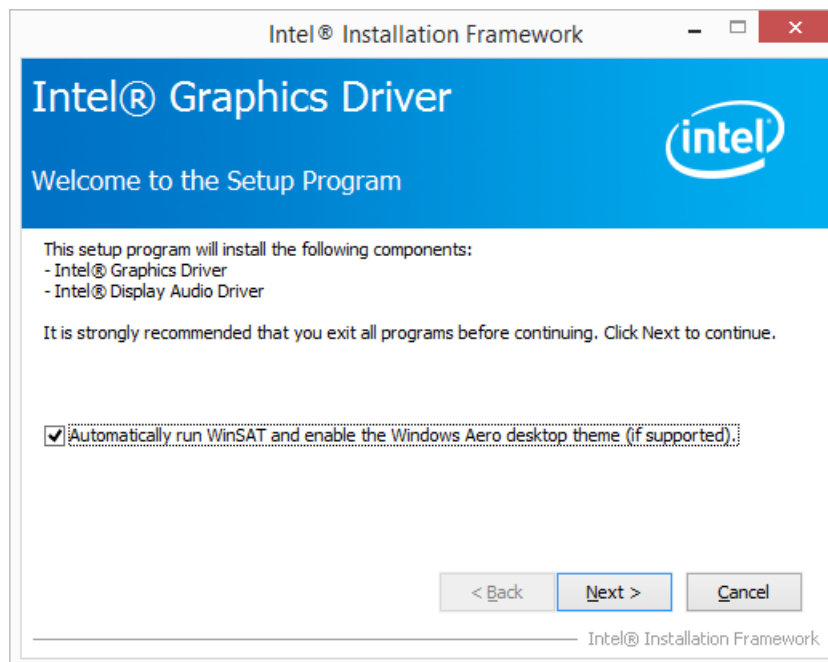

Figure 5-3: Intel® Graphics Driver Installation Wizard
- Step 2:** Double click the setup file in the folder. The **Intel® Graphics Driver** installation wizard appears (**Figure 5-3**).
Step 2: Double click the setup file. The installation wizard window appears (**Figure 5-3**).